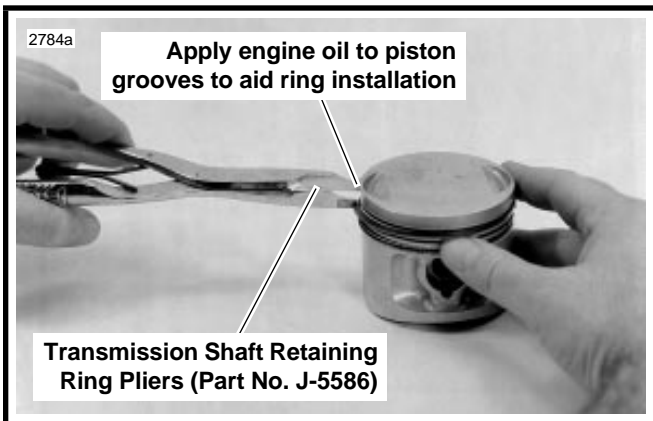

Figure 3-33. Installing Piston Rings
2. See Figure 3-33. Apply engine oil to piston grooves. Use TRANSMISSION SHAFT RETAINING RING PLIERS \(Part No. J-5586\) to slip compression rings over piston into their respective grooves. Be extremely careful not to over expand, twist rings, or damage piston surface when installing rings.